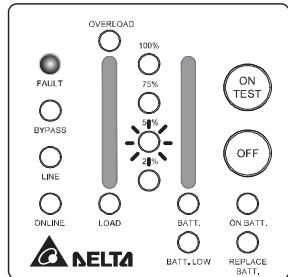

Figure 3-15 (Inverter U.V.P.)
- ✓ When under (or over) voltage is happened in the UPS output. This kind of fault will be detected by the microprocessor in the UPS and is so-called “U.V.P” (“O.V.P”). Show as Figure 3-15, 3-16.